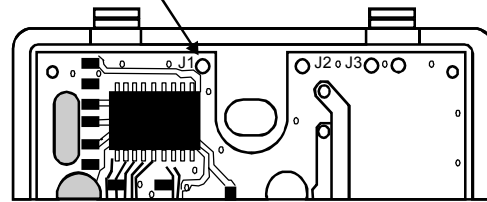

Figure 3: Strobe signal setting
3. Set the strobe signal if required. See Figure 3.